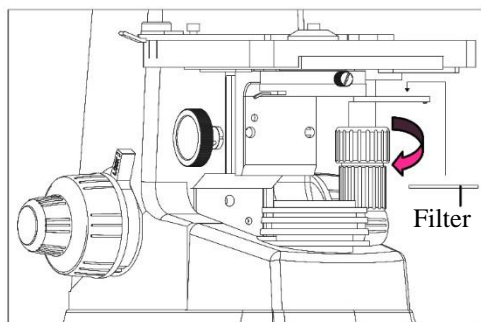

Fig. 8
3.2.5. Installing the color filters (Fig. 8)
1. Pressing the salient point under the condenser bracket, turn the condenser bracket ① out at the direction of arrow in Fig. 8